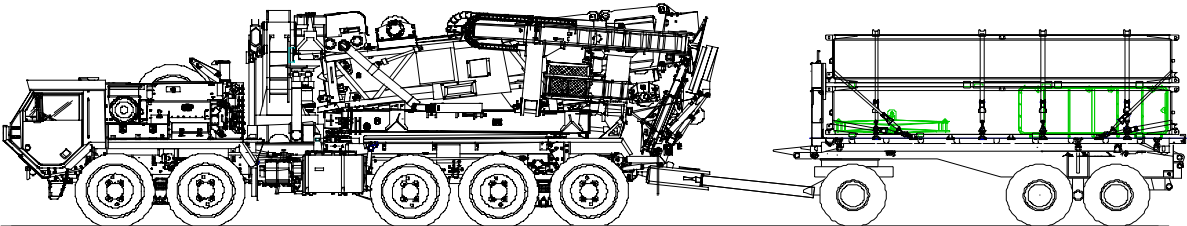

Figure 11. 1 Launch Vehicle and Trailer Combination
The DSB system is fully transportable by road, its components have been designed to be carried on M1077 flatracks by M1977 CBT, M1075, vehicles and M1076 trailers. The DSB System, is capable of constructing one 40 meter span or two 20 meter spans, is transported by four trucks and four trailers including the launcher and its trailer. The combination is shown in Figure 11. 86.
11.2.1.1 The launcher is mounted on an Oshkosh M1075 PLS chassis. The launch vehicle general arrangement is shown in Figure 11. 1. The launch vehicle can be driven on North American and foreign roads but as it exceeds the width requirement of 96 inches for un-restricted CONUS transport, as defined in MIL-STD-1366D section 5.1.2.1, it may be subject to restriction or require permits. The overall length is less than the 40 feet restriction imposed in many States for straight trucks and the height is below 13.5 feet (4-meters).